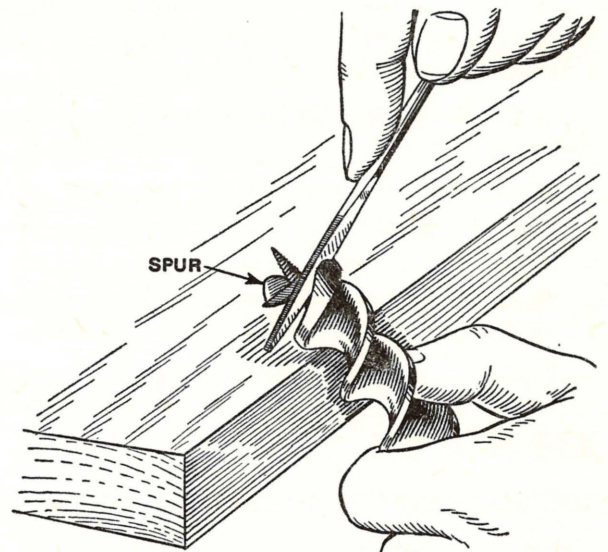

Fig. 602—Hold the auger bit against the edge of a bench and file the inside of the spur
1. File the spur. Use the end of the file having the cutting surface on the side. Do not file on the outside of the spur. This would cause the spur to outline a smaller hole than it is supposed to. Always file toward the cutting edge. (See Fig. 602.)